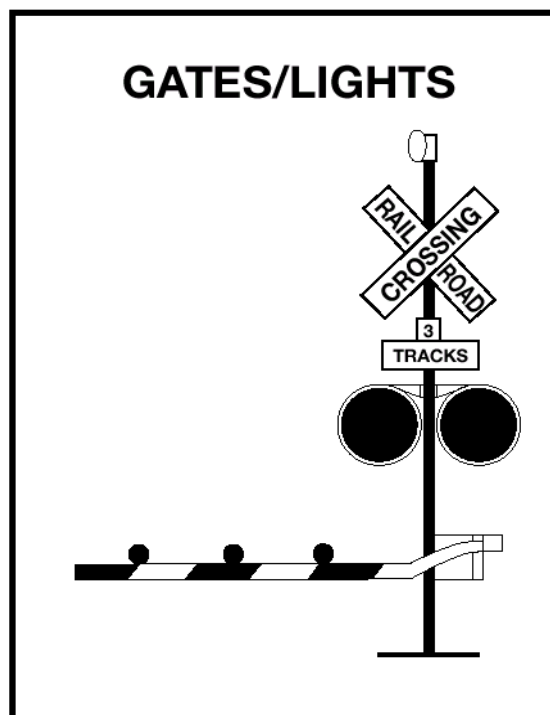

Figure SB. 8
**Flashing Red Light Signals.** At many highway-rail grade crossings, the crossbuck sign has flashing red lights and bells. When the lights begin to flash, stop! A train is approaching. You are required to yield the right-of-way to the train. If there is more than one track, make sure all tracks are clear before crossing. See **Figure SB.8.**
**Gates.** Many railroad-highway crossings have gates with flashing red lights and bells. Stop when the lights begin to flash and before the gate lowers across the road lane. Remain stopped until the gates go up and the lights have stopped flashing. Proceed when it is safe. If the gate stays down after the train passes, do not drive around the gate. Instead, call your dispatcher. If the gate comes down after you have started across, drive through it even if it means you will break the gate. See **Figure SB.8.**